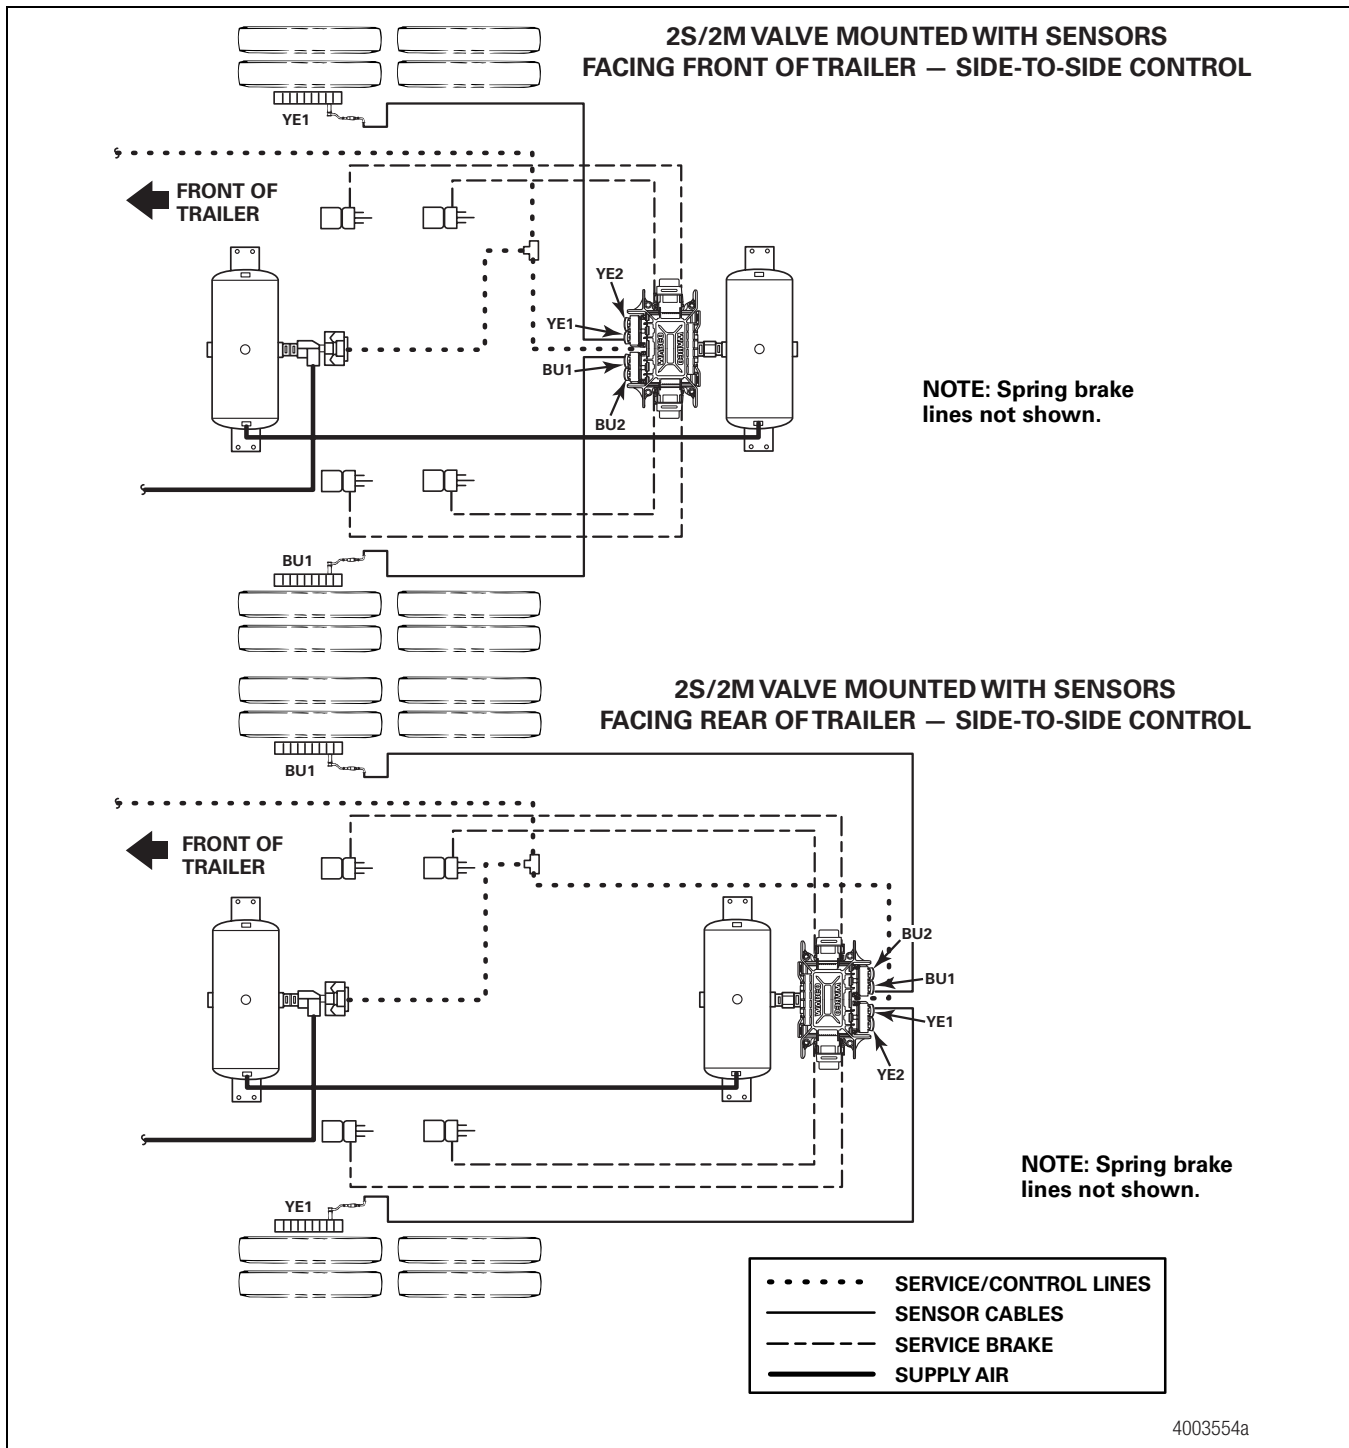

**Figure 12**
**For an optional blunt-cut power cable:** Wire the cable and ABS indicator lamp to the seven-way connector on the trailer according to the following diagram. Figure 12.